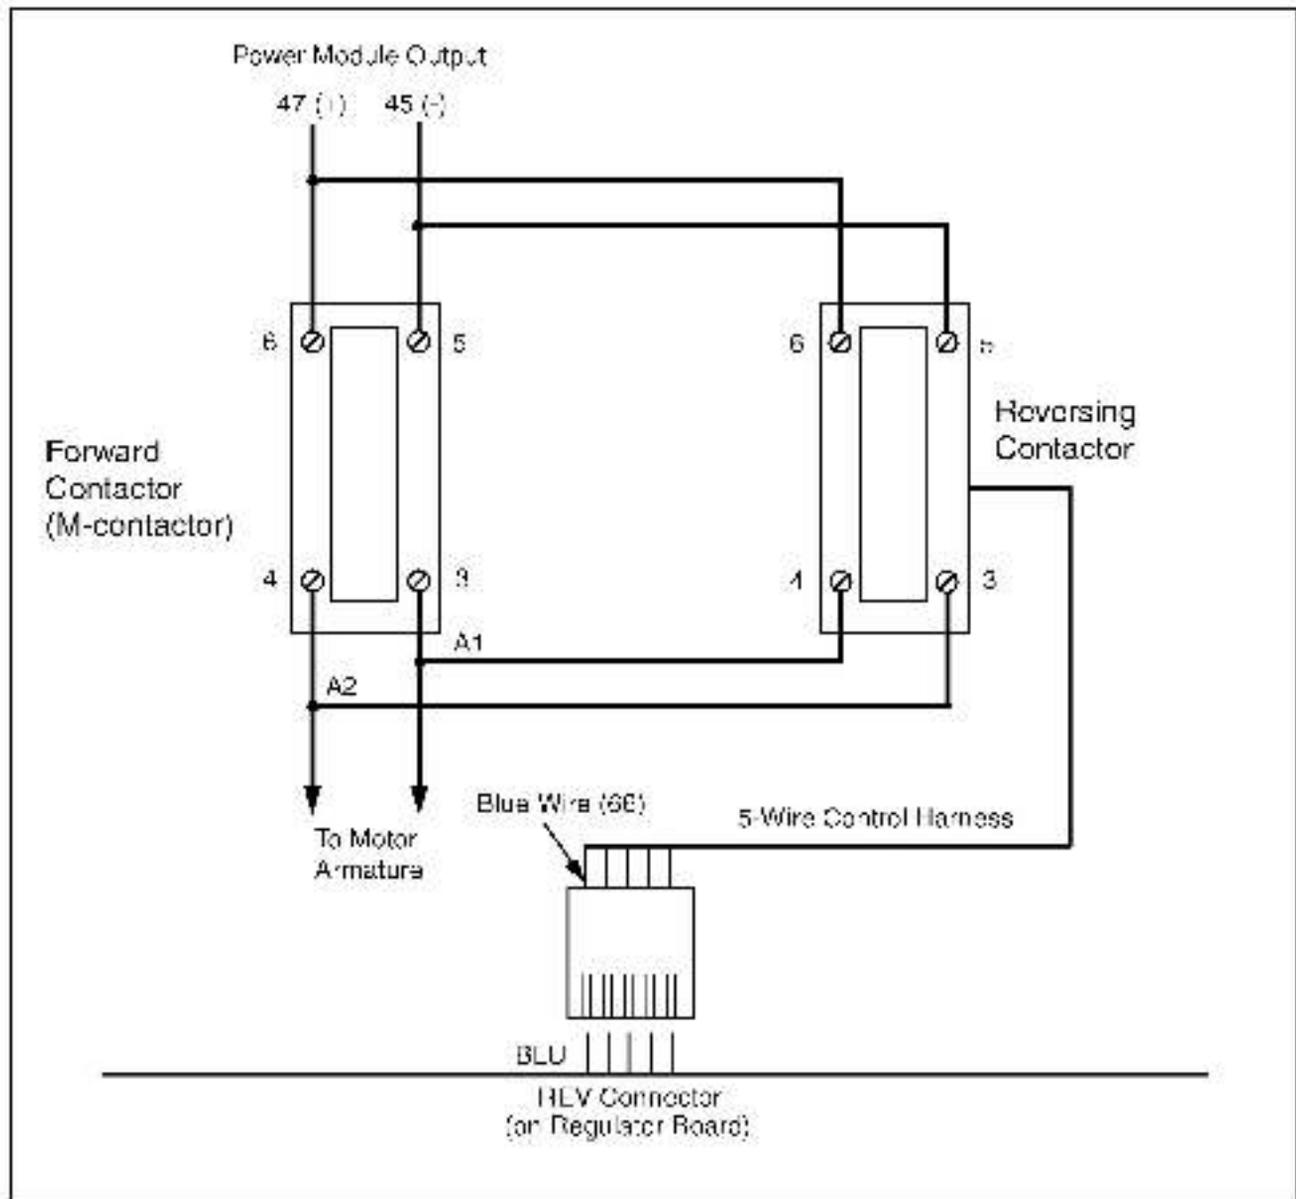

Figure 1 – Power and Control Wiring
Refer to figure 1 and to instruction manual D-3900 to identify drive terminals and connectors. To install the Reversing Contactor in your non-regenerative FlexPak Plus DC drive:
- Step 12. **Drives with Dynamic Braking Kits Installed:** Connect the Dynamic Braking kit between the two corresponding normally-closed (NC) contacts on the M-Contactor and the Reversing Contactor. Refer to instruction manual D2-3378 for information on installing the Dynamic Braking kit.
Step 13. Route the Reversing Contactor's 5-wire control harness behind the front bar of the auxiliary mounting bracket. Connect the harness to the pins marked "REV" at the top center of the drive's Regulator board. Orient the connector so that the blue wire (6E) connects to the pin labeled "BLU." Refer to figure 1.